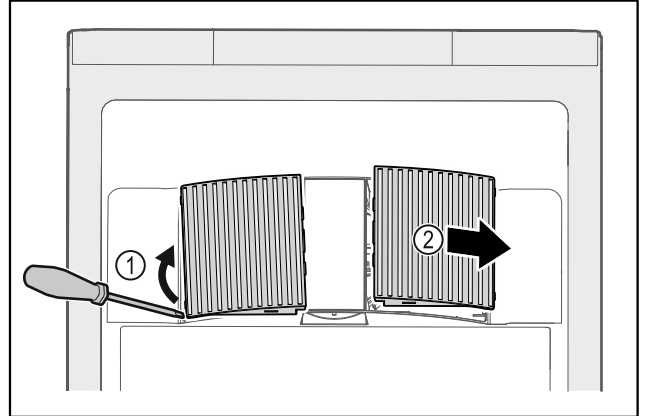

Fig. 148
- ▶ Carefully lever out fan covers from the side Fig. 148 (1) and remove towards the front Fig. 148 (2).